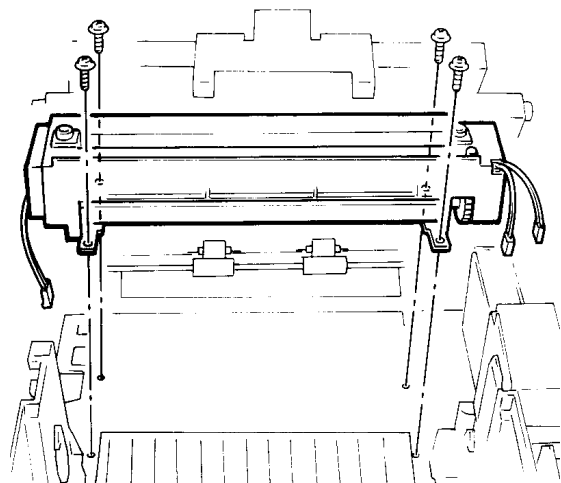

Figure 2. Fuser assembly
5. Remove the four screws retaining the fuser assembly to the chassis (figure 2).